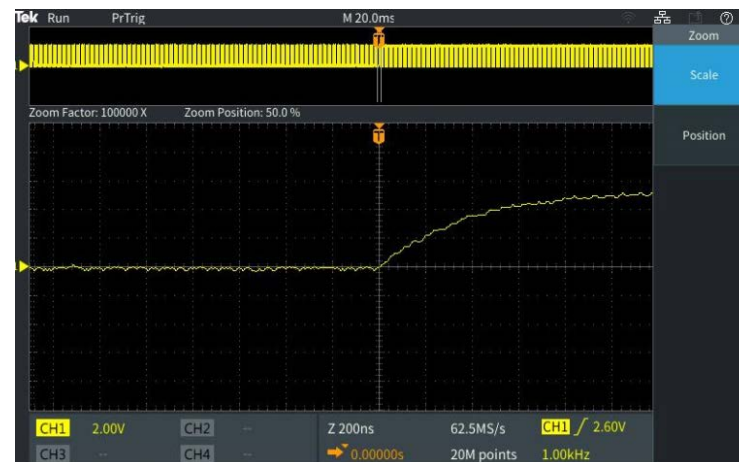

Figure 8. Zooming in on a rising edge
5. Turn the **MPK** to change the zoom scale factor from **1X** to **100000X**. See the details of the trigger edge (Figure 8).